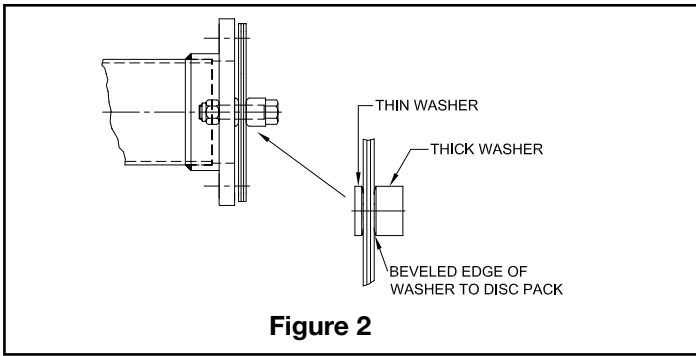

Figure 2
4. Assemble the blade pack to the spacer as shown in Figure 2. Tighten the nuts to the proper torque as indicated in Table 2.
7. With equipment aligned and coupling assembled make sure all bolts and washers are in the proper orientation. The curved face of the washer must face the blade pack as shown in Figure 2.